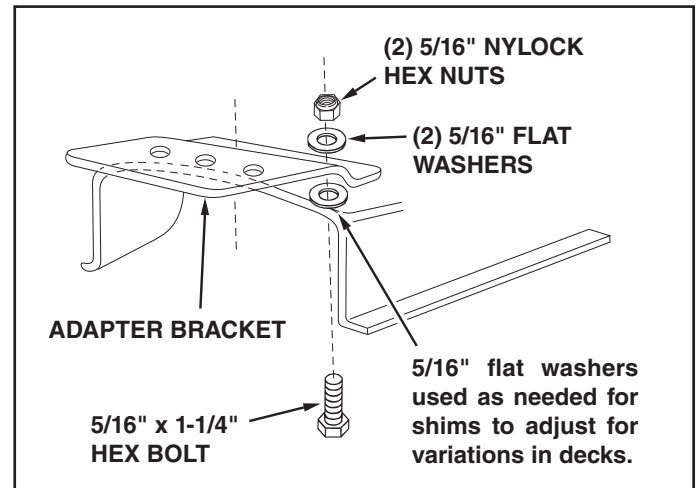

FIGURE 16
- Assemble the adapter bracket to the deck using two 5/16" x 1" hex bolts, 5/16" flat washers and 5/16" Nylock hex nuts. See figure 16.
**NOTE:** It may be necessary to use extra 5/16" flat washers to shim under the bracket next to the deck surface. Ten extra washers have been furnished as shims. See figure 16.